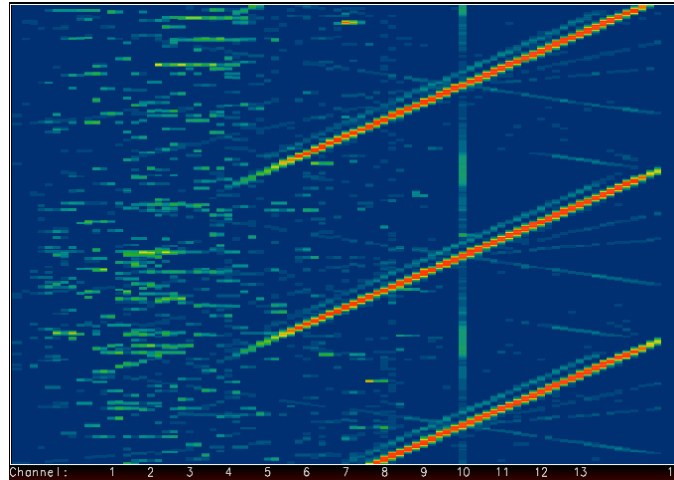

Figure 5: Spectrum Analyzer Output
4. If everything works, the serial terminal will print out boot messages. Type `T` to enable the radio's transmit path. The radio's green LED will illuminate to indicate the radio is transmitting, and your node will be generating a sweeping sinusoid at RF. You can observe the waveform on the spectrum analyzer in the lab. It should look something like Figure 5. Type `t` to disable the transmitter.